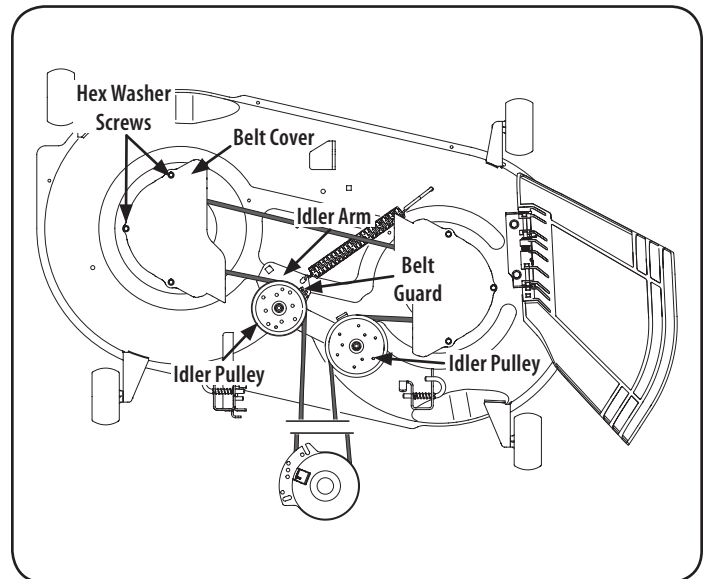

Figure 36
2. Remove the hex washer screws securing the belt covers to the deck. See Figure 36.
5. Install the new belt around the spindle pulleys as shown and reinstall the belt covers. See Figure 36.